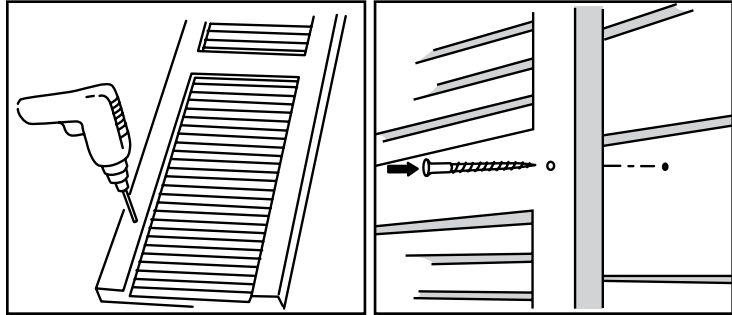

Figure 74.
- Pre-drill holes through the shutters for attachment screws and mark the location of these holes on the siding (Fig. 74).